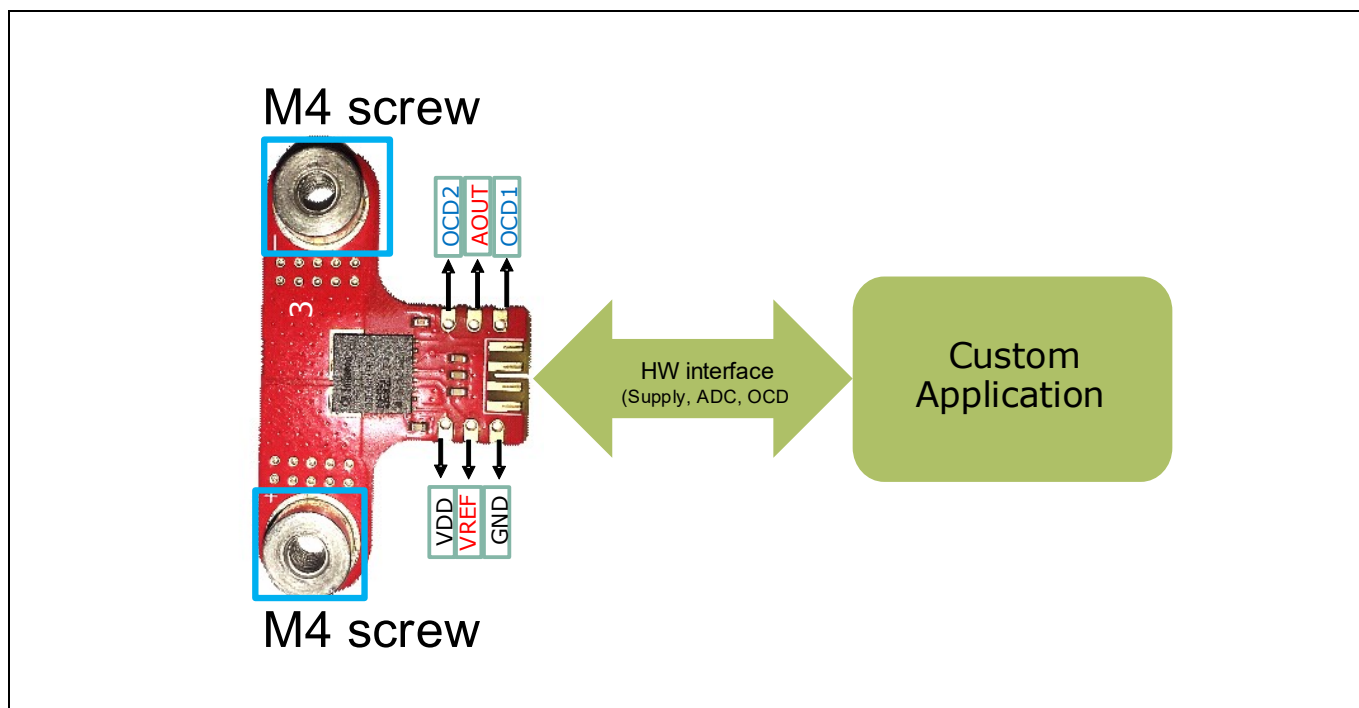

Figure 6 MS2Go or S2Go kit Use Case with Custom Platform
- Sensor board alone (See Figure 6)
The sensor board can also be used as standalone in any customer application (eg. Interfaced with custom MCU platforms, and lab equipment etc...). In Figure 6, M4 screws are used to connect the primary current source and VDD pin to 3.3V.